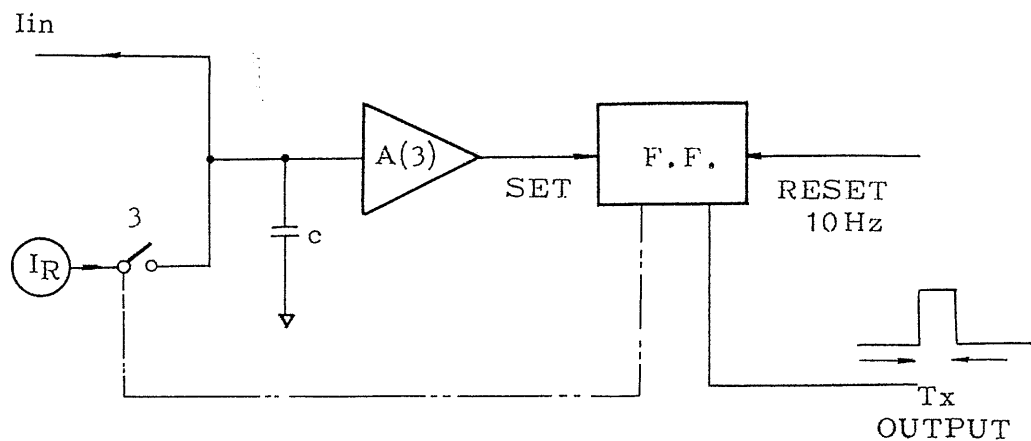

Fig. 4-4
The pulse width converter uses reference power source I_R , level detector A(3) and phase compensation type flip-flop FF as shown in Fig. 4-4.